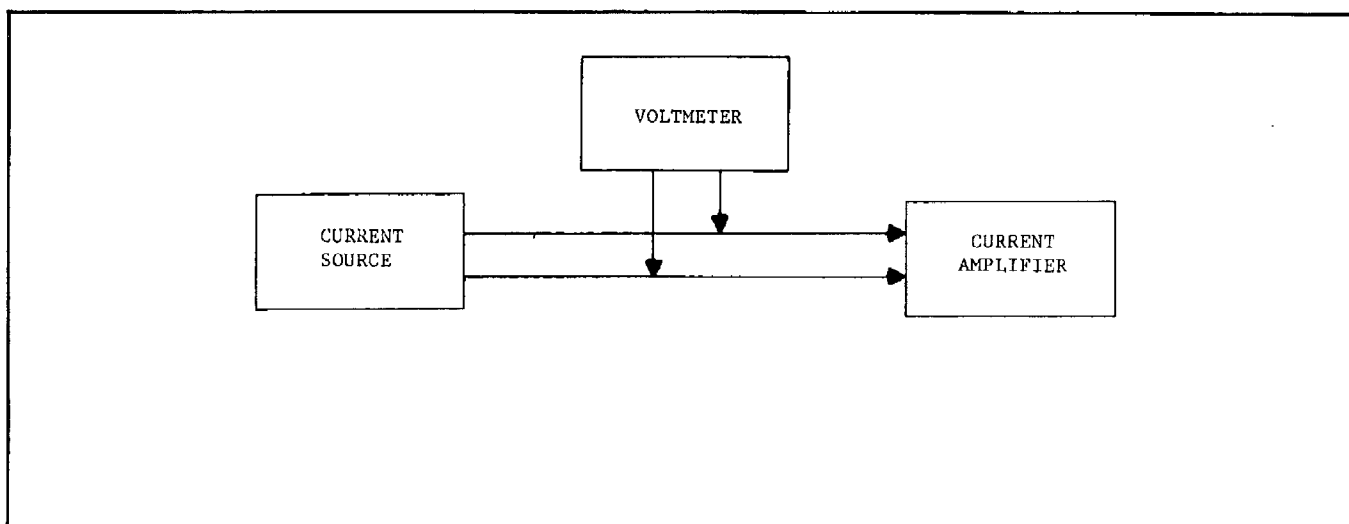

FIGURE 23. Measurement of Input Voltage Drop.
a). Set the Model 261 to 10^{-6} ampere and the Model 427 gain to 10^7 V/A and connect the test set up as shown in Figure 23 using a BNC TEE connector on the Model 427 input.